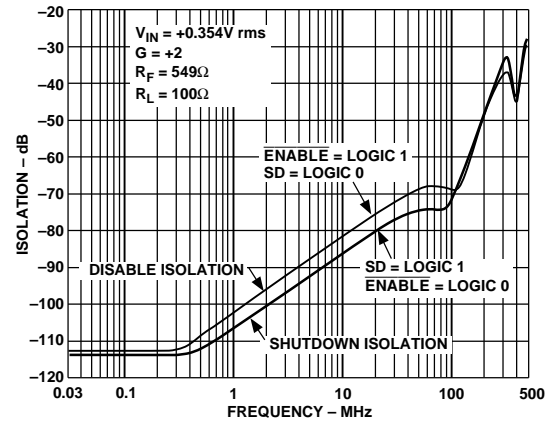

Figure 14. AD8174R Disable and Shutdown Isolation vs. Frequency
- ⁷AD8174 only. Shutdown (SD) pin is grounded. Mux is disabled, (i.e., $\overline{\text{ENABLE}}$ = Logic 1) and all inputs are driven simultaneously with V_{IN} = 0.354 V rms. Output is monitored at f = 5 MHz and 30 MHz; R_L = 100 Ω. In this mode, the output impedance of the disabled mux is very high (typ 10 MΩ), and the signal couples across the package; the load impedance and the feedback network determine the crosstalk. For instance, in a closed-loop gain of +1, r_{OUT} ≈ 10 MΩ, in a gain of +2 (R_F = R_G = 549 Ω), r_{OUT} = 1.1 kΩ (see Figure 14).
- ⁸AD8174 only. $\overline{\text{ENABLE}}$ pin is grounded. Mux is shutdown (i.e., SD = Logic 1), and all inputs are driven simultaneously with V_{IN} = 0.354 V rms. Output is monitored at f = 5 MHz and 30 MHz; R_L = 100 Ω. (see Figure 14). The mux output impedance in shutdown mode is the same as the disabled mux output impedance.